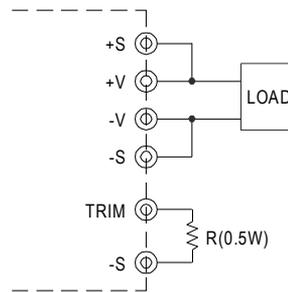

Fig. 3.2 Output voltage trimming
- (2) Connecting a resistor externally between TRIM and-S on CN1 or CN2 that is shown in Fig. 3.2.
- (3) +S & +V, -S & -V also need to be connected on CN1 or CN2.